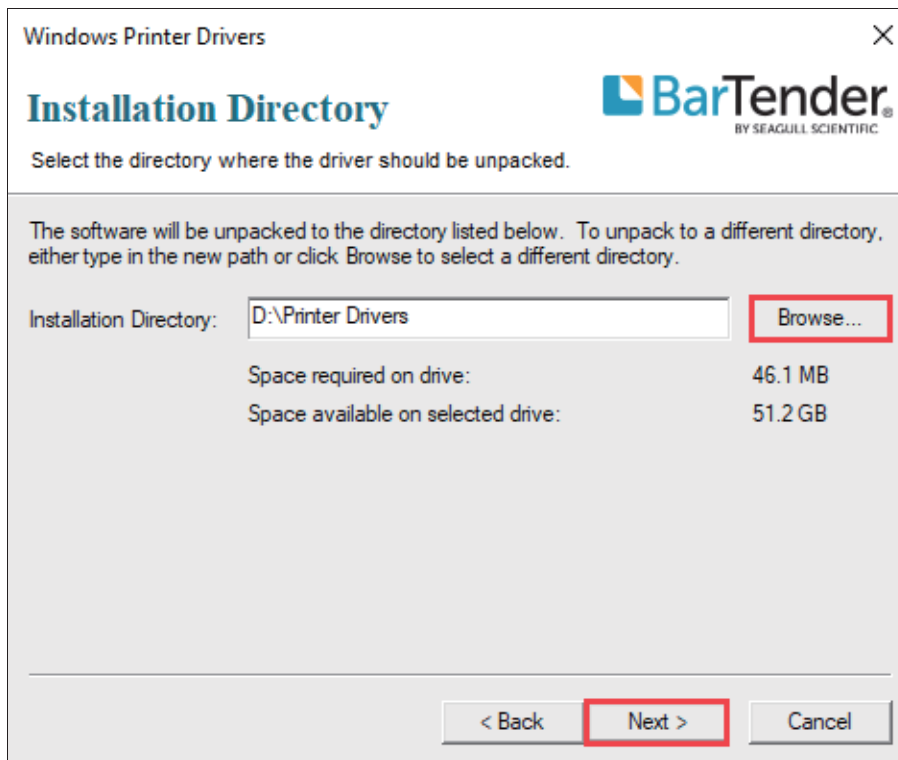

Figure 2-28 Installation Directory Screen
4. The “Installation Directory” screen displays. Click “Browse...” and select where the files will be installed, then click “Next”, as shown in Figure 2-28.